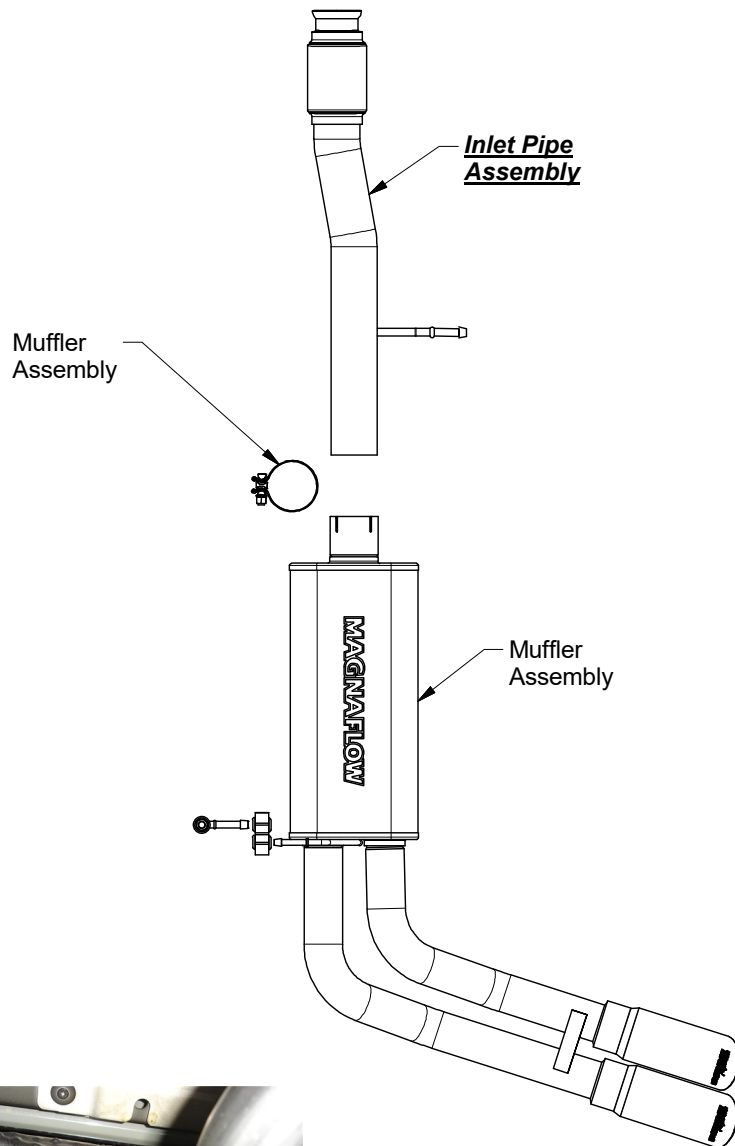

Fig. 1
**Step 2:** Install the new inlet pipe assembly at the ball flare using the OEM fasteners. Leave all clamps and fasteners loose for final adjustments of the new system. Using the supplied 3.00" clamp, install the muffler/tailpipe assembly, and insert the welded hanger into the OEM rubber insulator. Install the threaded hanger in a pre-drilled hole in the frame as shown in Fig. 1.